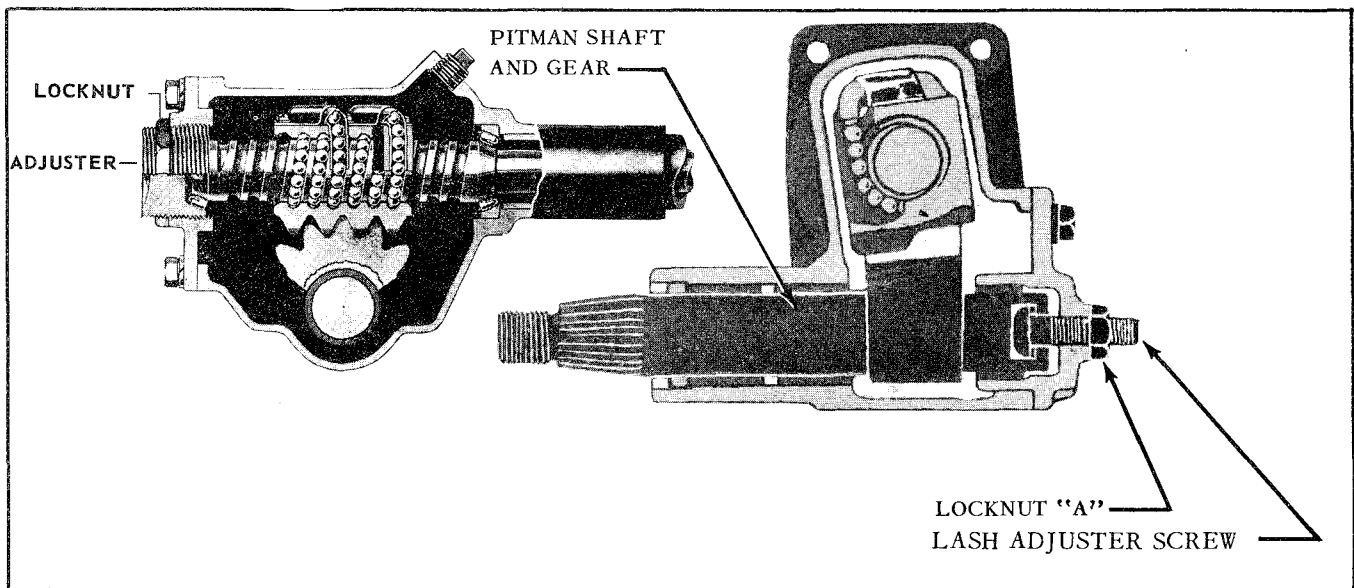

FIG. 23 – STEERING GEAR
3. Loosen locknut "A" and turn lash adjuster "B" a few turns counter-clockwise. (Refer to Fig. 23.) This removes from the thrust bearings the load imposed due to the close mesh between the ball nut rack, and pitman shaft and gear.
3. Turn lash adjuster "B" (refer to Fig. 23) clockwise until back lash disappears between the teeth on the ball nut and the teeth on the pitman shaft and gear. When adjustment is correct, the pull required to
4. Carefully secure locknut "A" (refer to Fig. 23) making sure that lash adjuster "B" does not move.